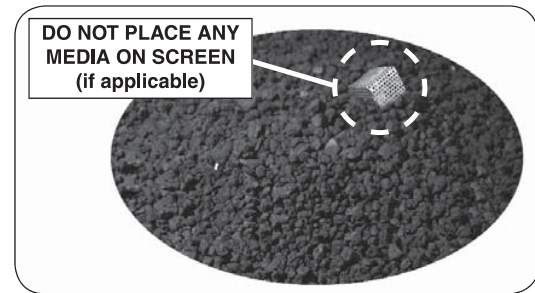
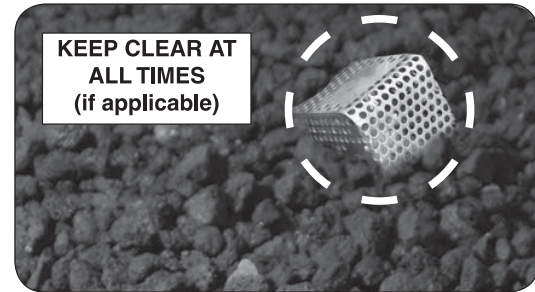

Fig. 26-1 Place lava
Fig. 26-2 Screen detail (if applicable)
1. Pour the 10 lb bag(s) of lava granules into the burner pan, evenly covering the burner pan assembly (with the exception of the screen - if applicable). See Fig. 26-1 and Fig. 26-2.